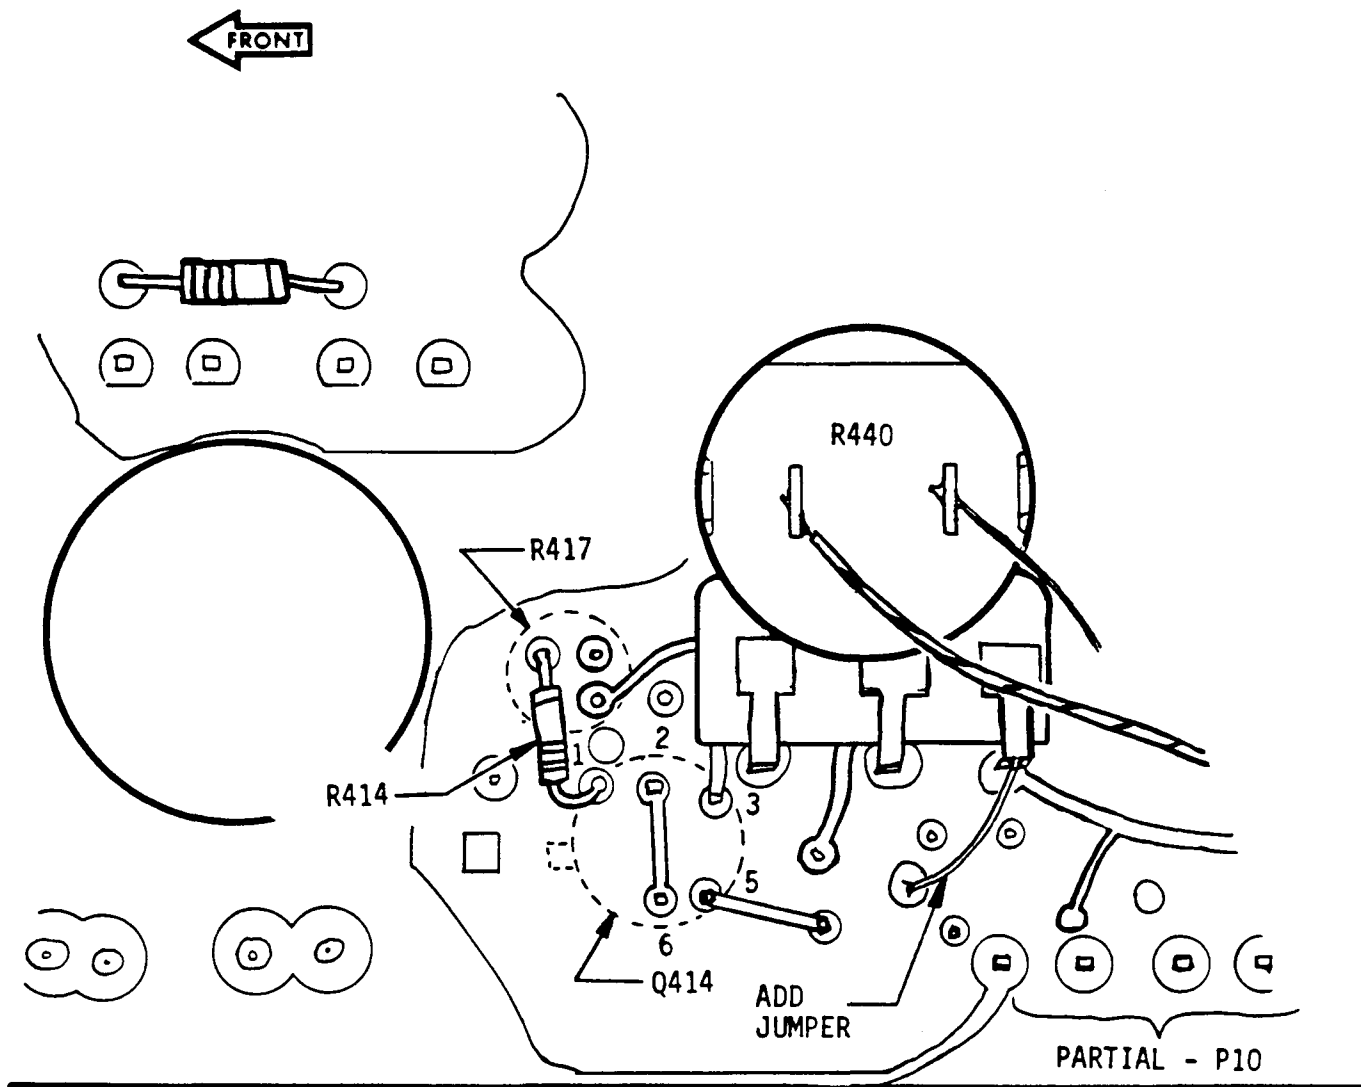

Fig. 6. Partial View - Back (Solder Side) of Input Circuit Board.
- () 5. On the back (solder side) of the circuit board, (see Fig. 6), solder a jumper between the solder pad from which R344 was unsoldered and the rear terminal (+5.6V) of variable resistor R440.
- () 20. On the back (solder side) of the circuit board (see Fig. 6), solder the new R414 (the 499 Ω resistor from the kit) between the front terminal of variable resistor R417 and the socket for pin 1 (source) of Q414.